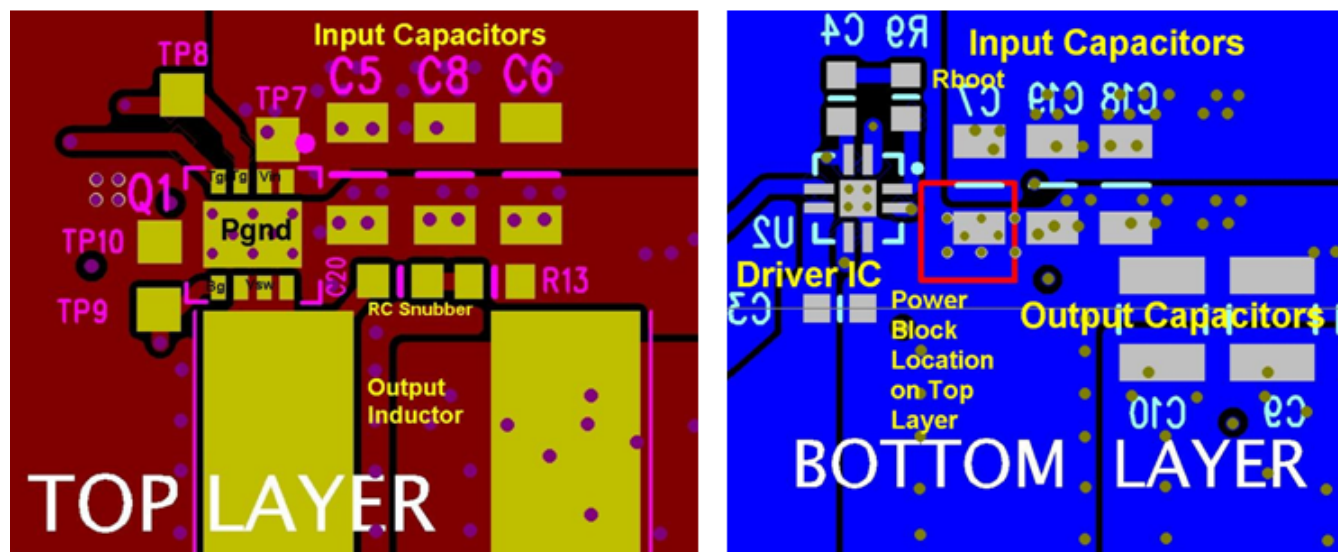

Figure 21. Recommended PCB Layout (Top Down)
- The placement of the input capacitors relative to the Power Block's VIN and PGND pins should have the highest priority during the component placement routine. It is critical to minimize these node lengths. As such, ceramic input capacitors need to be placed as close as possible to the VIN and PGND pins (see Figure 21). The example in Figure 21 uses 6 × 10-μF ceramic capacitors (TDK part number C3216X5R1C106KT or equivalent). Notice there are ceramic capacitors on both sides of the board with an appropriate amount of vias interconnecting both layers. In terms of priority of placement next to the Power Block, C5, C7, C19, and C8 should follow in order.
- The switching node of the output inductor should be placed relatively close to the Power Block VSW pins. Minimizing the node length between these two components will reduce the PCB conduction losses and actually reduce the switching noise level.⁽¹⁾ In the event the switch node waveform exhibits ringing that reaches undesirable levels, the use of a Boost Resistor or RC snubber can be an effective way to easily reduce the peak ring level. The recommended Boost Resistor value will range between 1.0 to 4.7 Ω depending on the output characteristics of Driver IC used in conjunction with the Power Block. The RC snubber values can range from 0.5 to 2.2 Ω for the R and 330 to 2200 pF for the C. Please refer to TI Application Note SLUP100 for more details on how to properly tune the RC snubber values. The RC snubber should be placed as close as possible to the Vsw node and PGND (see Figure 21).⁽¹⁾
(1) Keong W. Kam, David Pommerenke, "EMI Analysis Methods for Synchronous Buck Converter EMI Root Cause Analysis", University of Missouri – Rolla
- Use the smallest drill size allowed in your design. The example in Figure 21 uses vias with a 10 mil drill hole and a 16 mil capture pad.